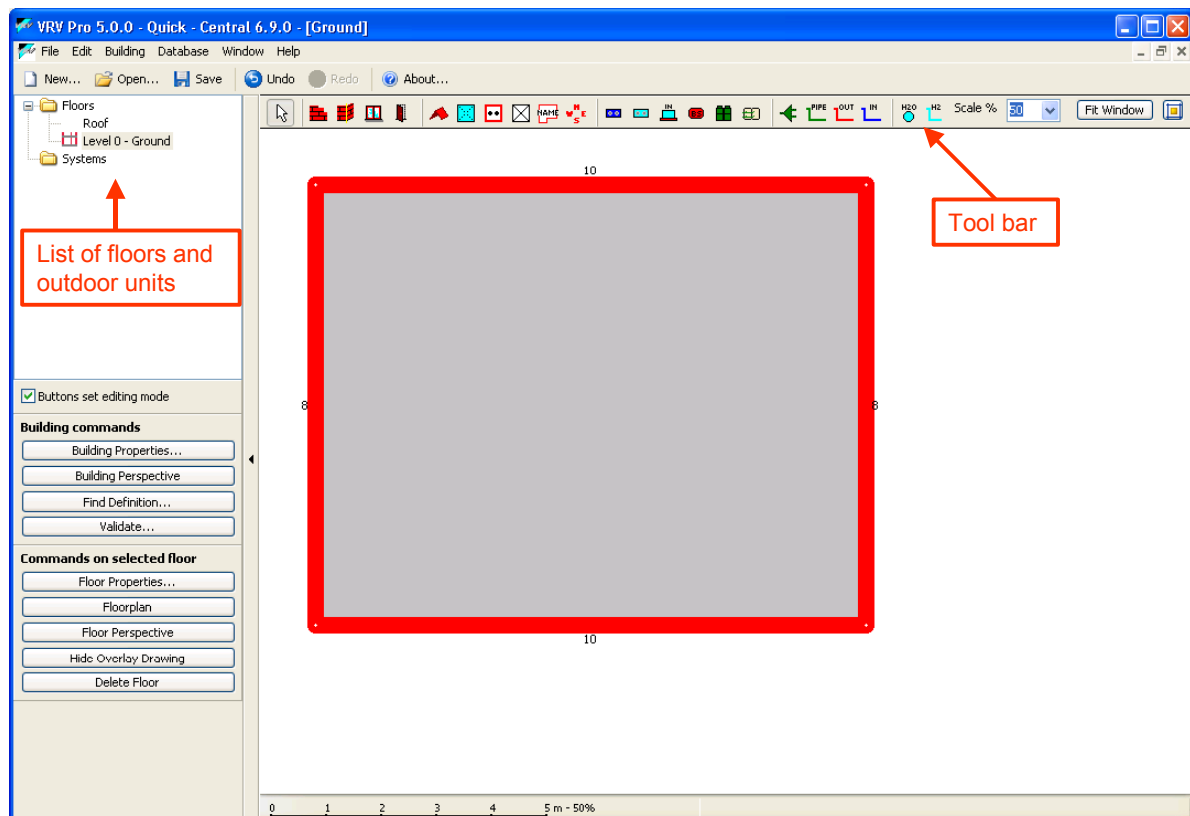
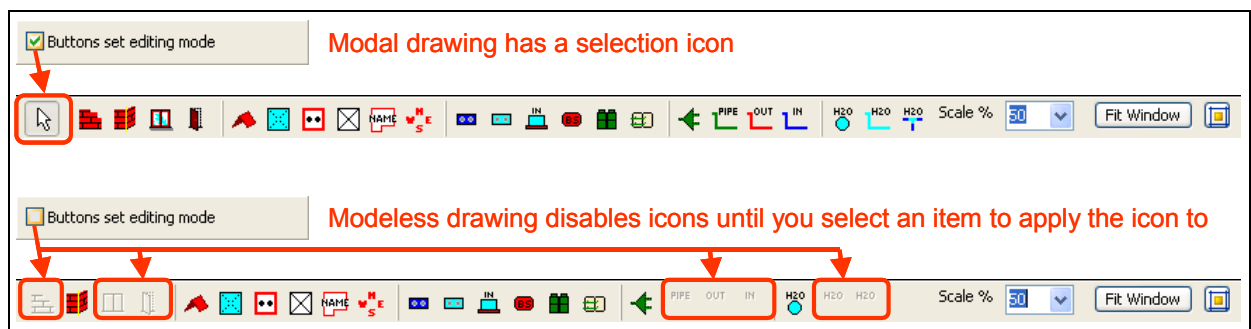
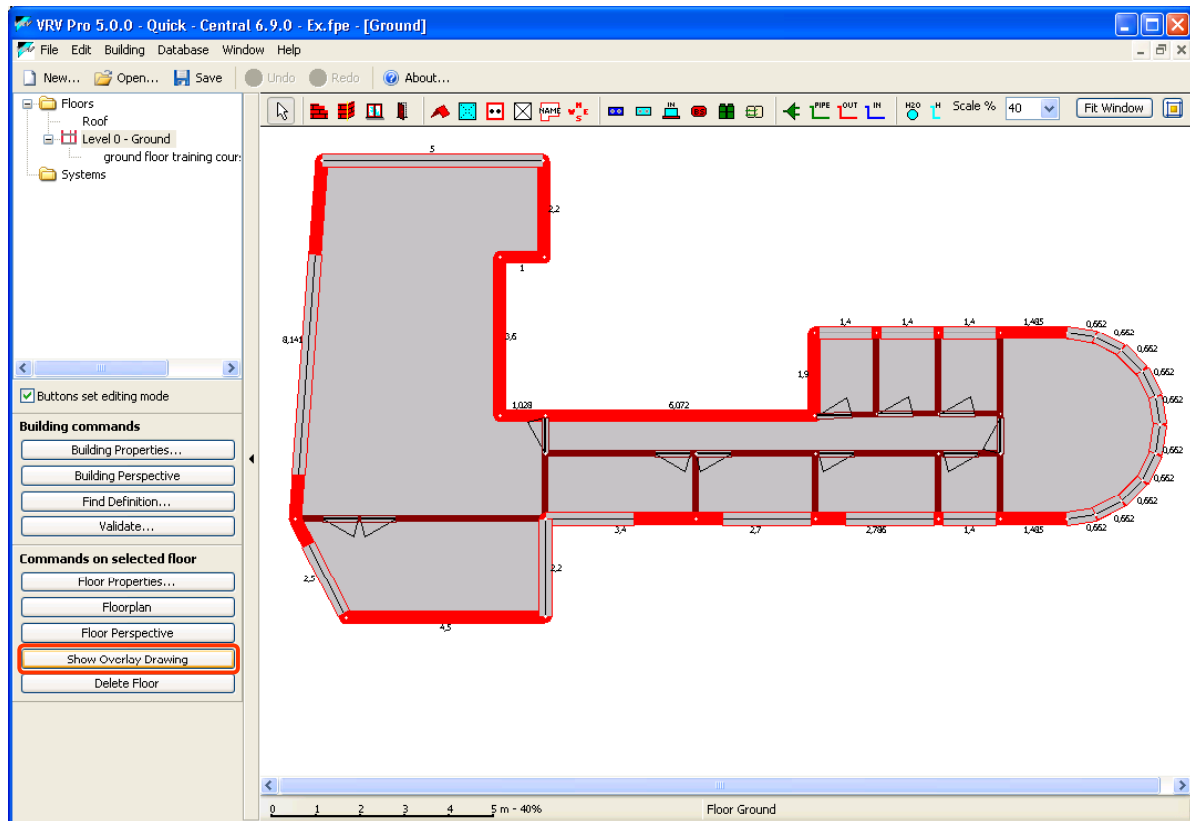

Figure 23: Default floor plan (10m x 8m) with tool bar and floor command bar
Figure 24: The different drawing modes and the corresponding tool bar
Figure 42: The floor plan after having hidden the floor plan template
When closing the floor properties window without selecting a floor plan template, will display a default 10m x 8m floor plan, together with a tool bar at the top and a list of floors with a command bar at the left, as shown in Figure 23:
By default, VRVPro starts in modal drawing by setting the checkmark "**Buttons set editing mode**", at the left of the main window (see Figure 23). Figure 24 shows the differences in the tool bar when selecting a modal or a modeless drawing mode.
- Select the select tool, as explained in section 2.2 and shown in Figure 24.
The floor plan template is no longer necessary now and may be hidden, by clicking the command "**Hide Overlay Drawing**", at the left of the main window (see also Figure 23). Figure 42 shows the floor plan without the floor plan template. The "**Hide Overlay Drawing**" command has now changed into a "**Show Overlay Drawing**" command.